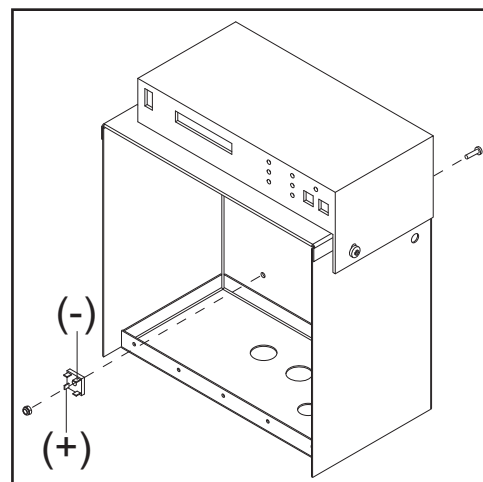

FIGURE 11
4. Run a 10-32 x .5" screw (included) from the back of the control box into the box and mount the Bridge Rectifier on the inside of the control box so the negative terminal is on the right. Secure with nylock nut included. SEE FIGURE 11.